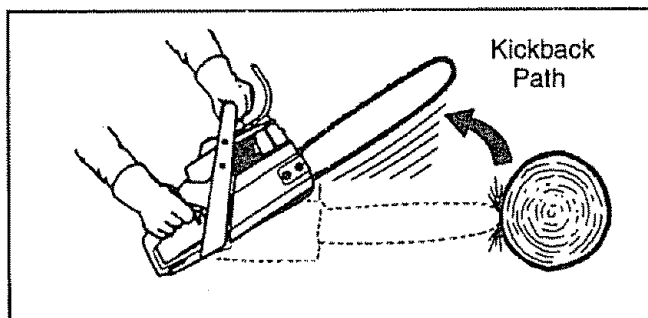

Figure 2
- Never let the moving chain contact any object at the tip of the guide bar. Figure 2